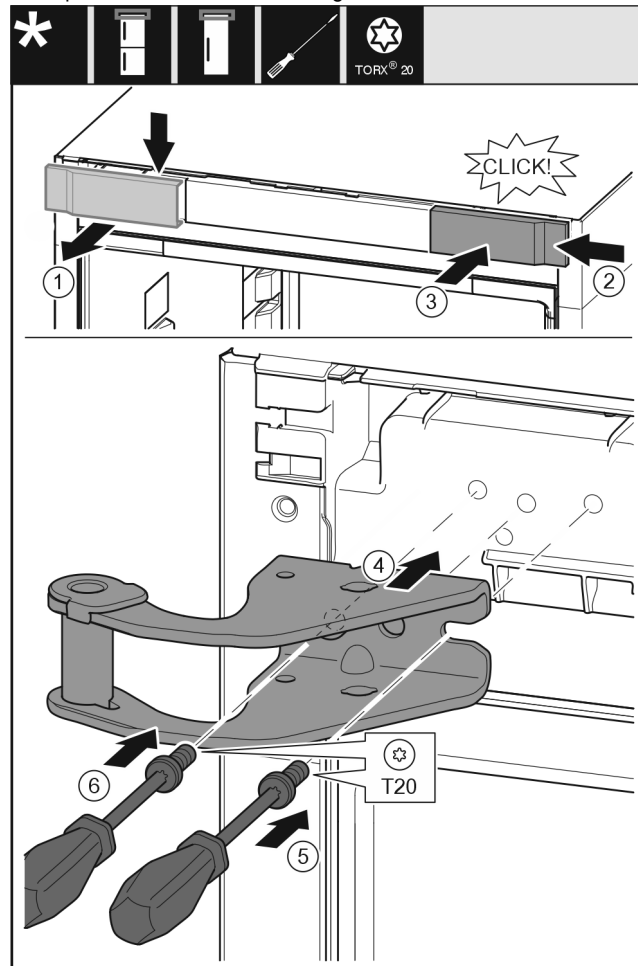

Fig. 10
- ▶ Remove the cover Fig. 10 (1) from above towards the front.
- ▶ Turn the cover Fig. 10 (2) by 180° and attach to the other side from the right.
- ▶ Engage the cover Fig. 10 (3).
- ▶ Place the top swap bearing block Fig. 10 (4).
- ▶ Use screwdriver Fig. 10 (5) to place the screw and tighten it.
- ▶ Use screwdriver Fig. 10 (6) to place the screw and tighten it.